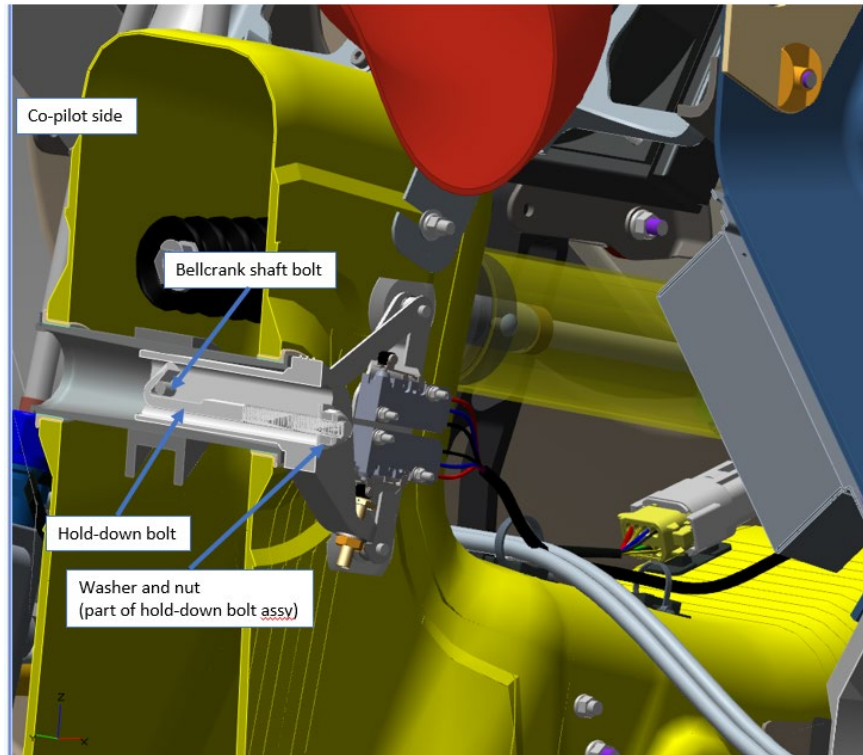

Figure 12. Cross-section view of installed bracket
9. Insert Limit Switch Retrofit Bracket into the bell crank shaft, orient it so it slides over the bell crank shaft bolt shown in **Figure 9** above. Remove zip-tie from hold down bolt assembly, remove and retain the washer and nut. Insert hold down bolt from co-pilot side of NLG box, and secure with 1 each retained washer and 1 each locking nut (95615A120) on the pilot side of the NLG Box. Torque to 17±2 in-lbs. (Reference **Figure 12**)